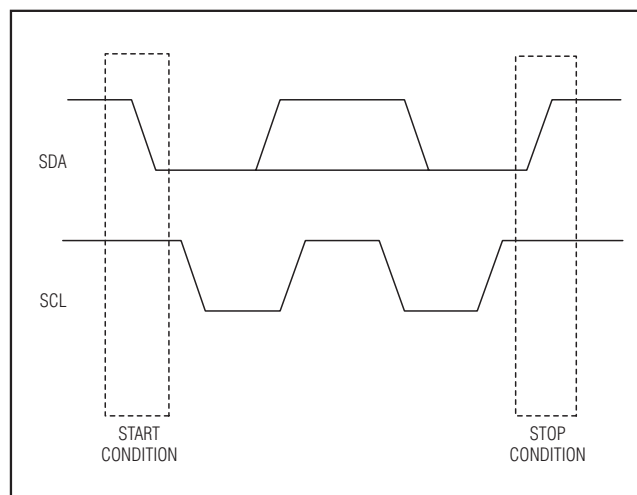

Figure 10. I²C START and STOP Conditions
When the serial interface is inactive, SDA and SCL idle high. A master device initiates communication by issuing a START (S) condition. A START condition is a high-to-low transition on SDA with SCL high. A STOP (P) condition is a low-to-high transition on SDA, while SCL is high (Figure 10).